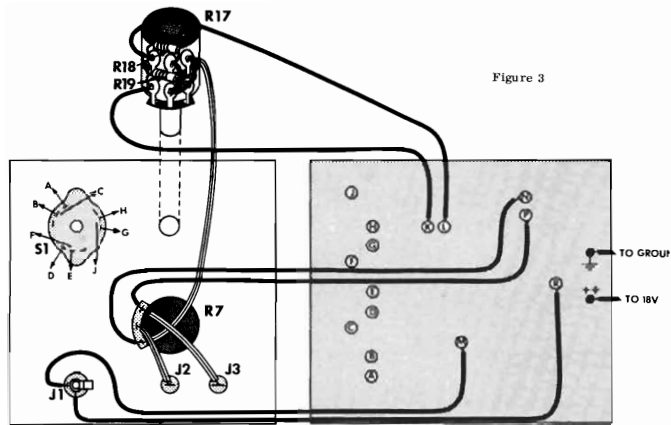

Figure 3
- () Place a red pin jack (J2) in the hole provided as shown in figure 3 and fasten in place with a tinnerman nut as shown in detail figure 2. Press the tinnerman nut down firmly.
- () Place the second red pin jack (J3) in the hole provided as shown in figure 3 and fasten in place with a tinnerman nut as shown in detail figure 2. Press the tinnerman nut down firmly.
- () Mount the open circuit phone jack (J1) to the front panel in the position shown in figure 3. Orient the jack as shown and fasten it in place with the nut provided. Carefully tighten the nut by putting the points of the jaws of a pair of small diagonal cutters into the notches in the nut using the cutters as a spanner.
- () Mount rotary switch S1 in the position shown in figure 3. Note that a standard 3/8" nut is used as a spacer between the switch body and the back of the front panel (the threads of this nut will not mesh with the threads on the shaft of the switch) while the nut provided with S1 is used on the front of the panel to tighten the switch in place. Orient as illustrated.
- () Mount single section potentiometer R7 in the location shown in figure 3. Use two 3/8" nuts, one behind the front panel as a spacer and the second on the front side of the panel to secure the potentiometer. Adjust the rear nut so that none of the threaded shaft of the control is exposed when the front nut is tightened down. This will allow the control knob which will be mounted in a later step to seat as closely as possible to the panel. Orient as illustrated.
- () Mount dual section potentiometer R17 in the location shown in figure 3. Use two 3/8" nuts as on R7 and orient as shown.
- () Solder the nine connections from circuit board points "A" through "J" to the rotary switch S1 as shown in assembly detail fig. 3. (Note that "I" is omitted.)